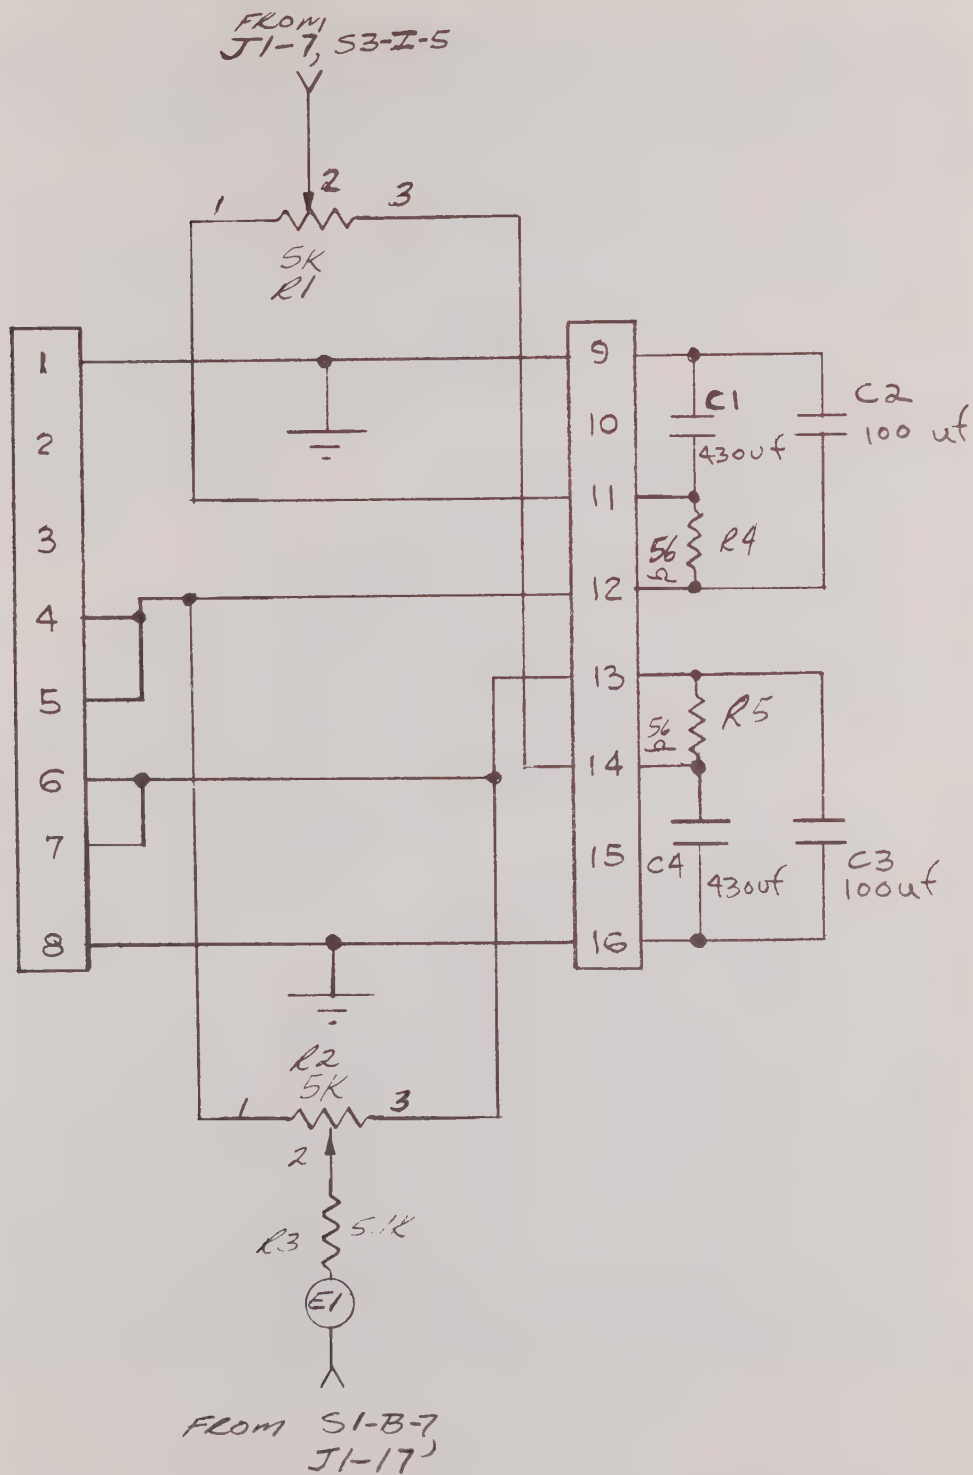

Figure 3-23. Tuner Assembly Wiring Diagram
- Figure 3-23. Tuner Assembly Wiring Diagram